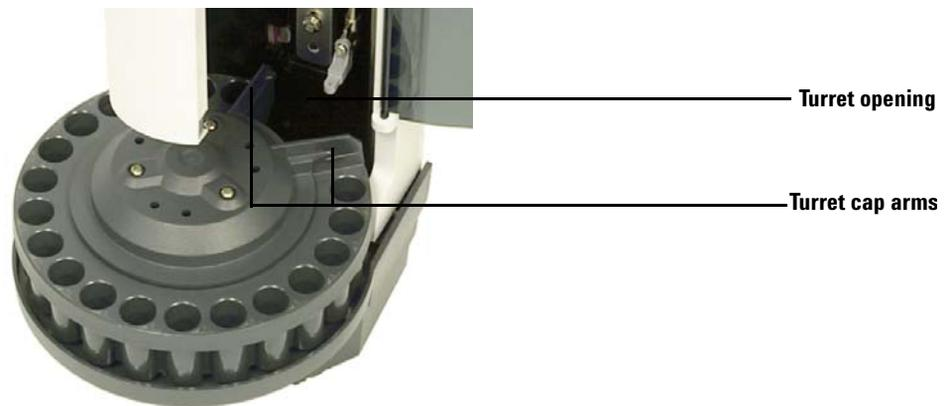

Figure 95 Aligning the turret cap arms with the turret opening
- 11 Reinstall the turret cap. Align the turret cap arms with the turret opening and lay the turret cap in place (Figure 95).